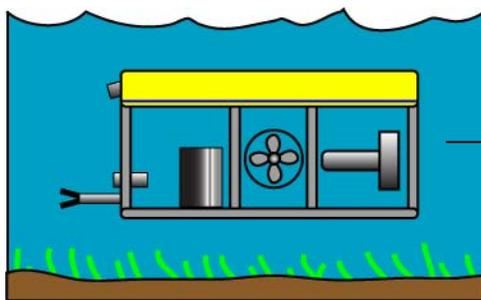

Figure 11a: The Vehicle Fully Submerged
- Center of Buoyancy (CB):
- When an object is partly or completely submerged in a liquid, some of that liquid is displaced. The volume of displaced liquid is exactly the same as the volume of whatever part of the object is below the surface. The shape of the volume of displaced liquid is also exactly the same as the shape of the part that is submerged, because the object itself is displacing the liquid. The *center of buoyancy* of the object is located at the center of gravity of the volume of the displaced liquid. It is the point through which the upward buoyant force seems to act. See Figures 11a and 11b.